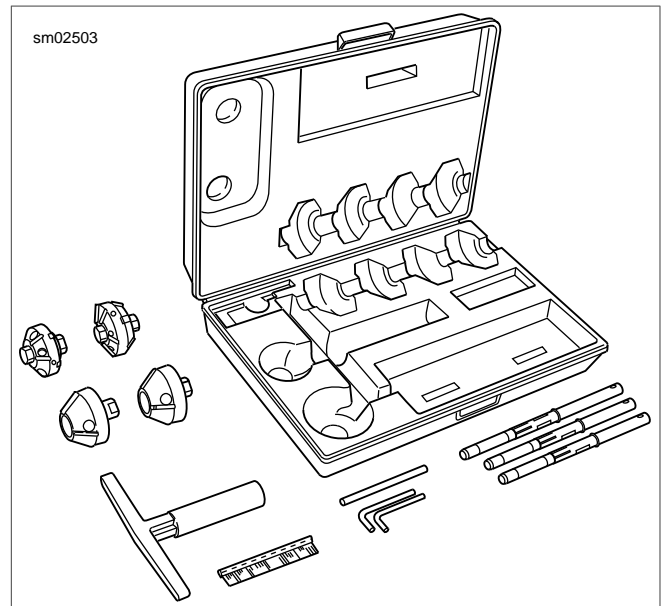

Figure 3-90. Neway Valve Seat Cutter Set
9. See Figure 3-90. Obtain the NEWAY VALVE SEAT CUTTER SET (Part No. HD-35758-C). Choose the cutter pilot that fits properly into the valve guide hole. Securely seat the pilot by pushing down and turning using the installation tool supplied in the tool set.